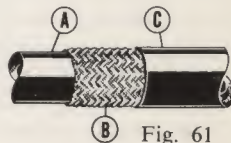

Fig. 61
One braid, rubber-covered hose (Fig. 61) consists of an inner tube (A), a braid insert (B), and an outside cover (C) all vulcanized into one.